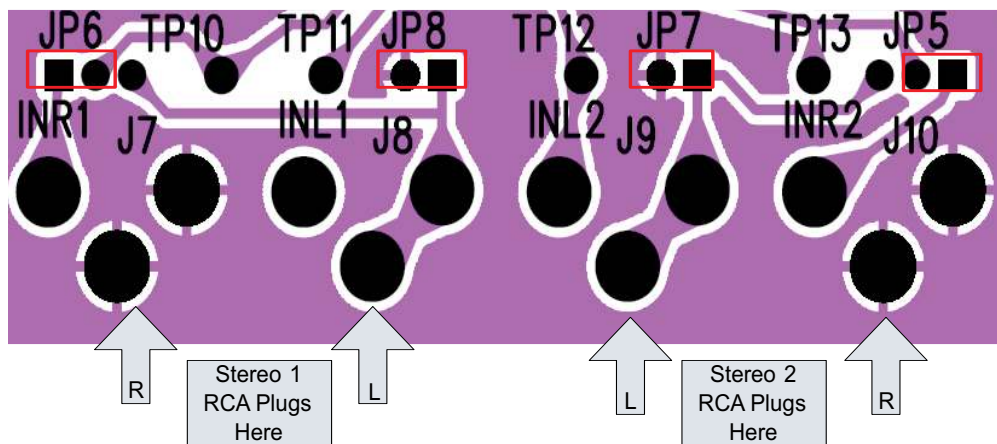

Figure 2. Non-Differential Mode Input Configuration
JP5, JP6, JP7, JP8	As shown in Figure 2
- b. For all other modes, install shunts and connect RCA plugs as shown in Figure 2.